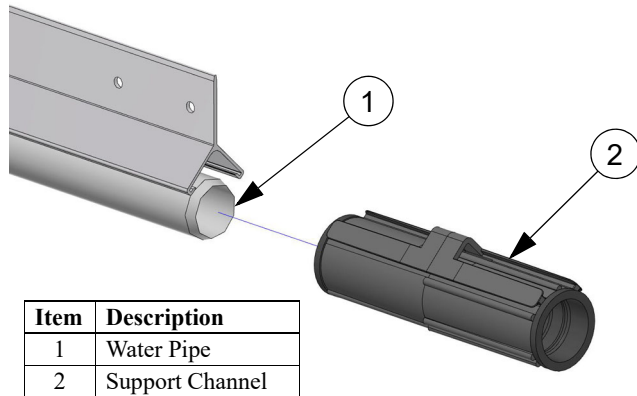

Figure 18. Coupling Liner Assembly Installation
1. Make sure the water pipes are fully inserted into the coupling assembly. (See Figure 18). See "Lubrication for Couplers" above.